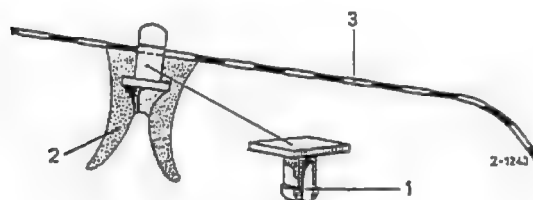

Fig. 72-16/1
1. Carefully detach the weatherstrip (2) where it is cemented and lift the plastic spreader clamps (1) out of the fixing holes in the door inner panel (3) (Fig. 72-16/1). Carefully scrape off all rubber and adhesive residues.